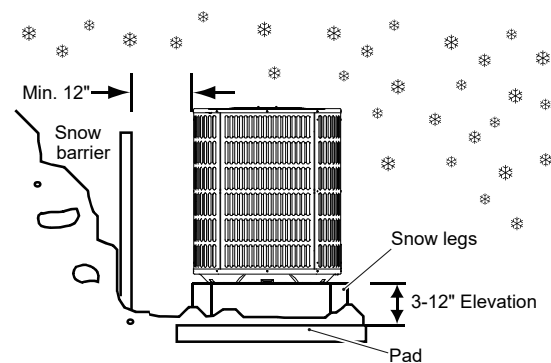

Figure 2-5
- Units should be elevated 3-12 inches above the pad or rooftop, depending on local weather. This additional height will allow drainage of snow and ice melted during defrost cycle prior to its refreezing. Ensure that drain holes in unit base pan are not obstructed, which could prevent the drainage of defrost water (Fig. 2-5).